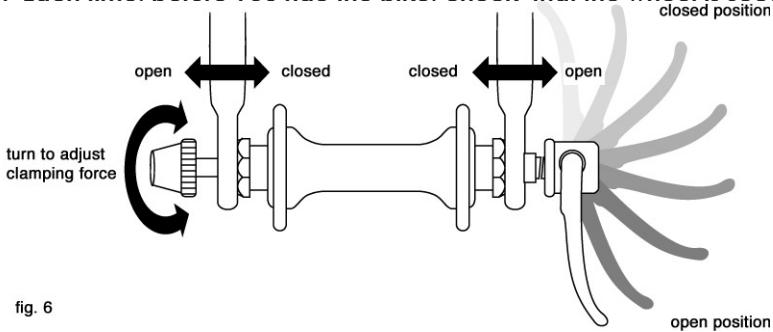

fig. 6
The wheel quick release uses a cam action to clamp the bike's wheel in place (see fig. 6). Because of its adjustable nature, it is critical that you understand how it works, how to use it properly, and how much force you need to apply to secure the wheel.
(3) Holding the quick-release lever in the OPEN position with your right hand, tighten the tension adjusting nut with your left hand until it is finger tight against the fork dropout (fig. 6).
(4) While pushing the wheel firmly to the top of the slots in the fork dropouts, and at the same time centering the wheel rim in the fork, move the quick-release lever upwards and swing it into the CLOSED position (fig. 6 & 7a). The lever should now be parallel to the fork blade and curved toward the wheel. To apply enough clamping force, you should have to wrap your fingers around the fork blade for leverage, and the lever should leave a clear imprint in the palm of your hand.
(1) Make sure that the rear derailleur is still in its outermost, high gear, position
(2) Pull the derailleur body back with your right hand.
(3) Move the quick-release lever to the OPEN position (see fig. 6). The lever should be on the side of the wheel opposite the derailleur and freewheel sprockets.
(4) Put the chain on top of the smallest freewheel sprocket. Then, insert the wheel into the frame dropouts and pull it all the way in to the dropouts.
Some bikes are equipped with a quick-release seat post binder. The seatpost quick-release binder works exactly like the wheel quick-release (Section 4.A.1) While a quick release looks like a long bolt with a lever on one end and a nut on the other, the quick release uses a cam action to firmly clamp the seat post (see fig. 6).